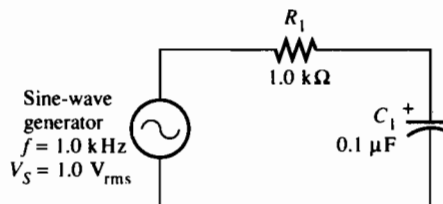

Figure 19–2
2. Set up the circuit shown in Figure 19–2. Set the generator for a 1.0 kHz sine wave with a 1.0 V rms output. Measure the rms voltage with your DMM while it is connected to the circuit.¹ Check the frequency and voltage with the oscilloscope.